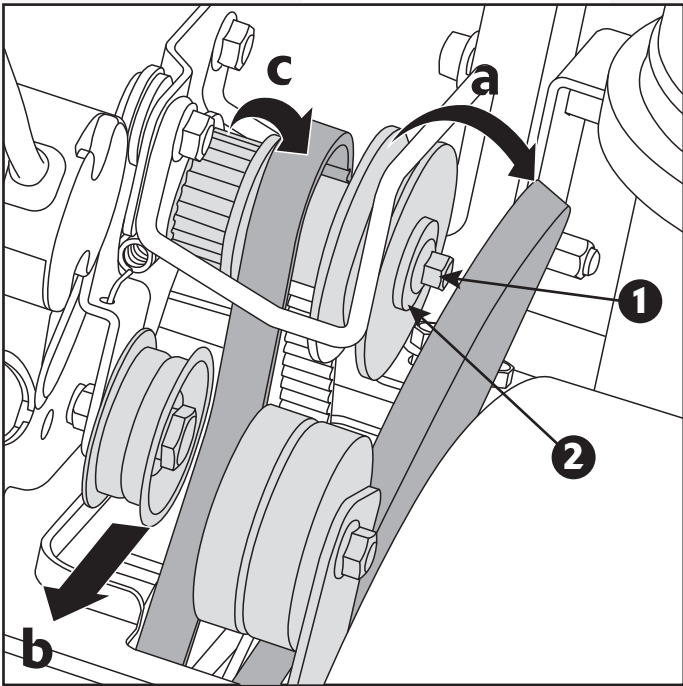

Fig. 19A
5. Remove the belt as follows: (Fig. 19A)